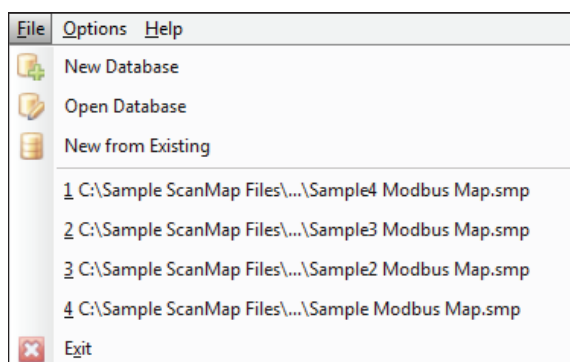
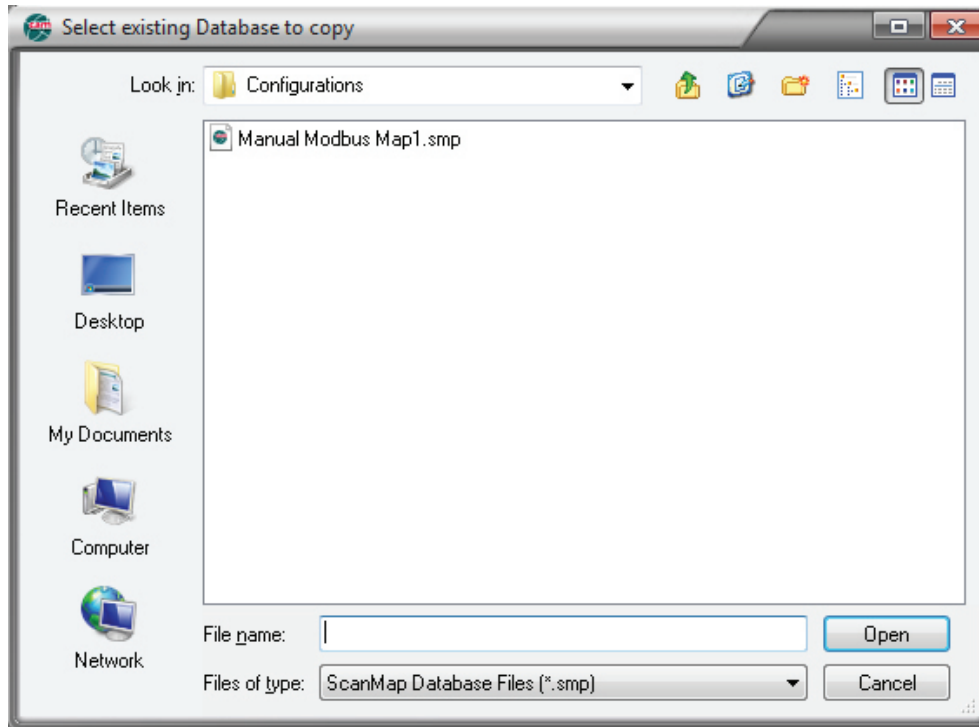

Figure 4.1—File menu
Figure 4.6—Select Existing Database to Copy dialog
The first step in creating a custom Modbus map is to build a custom database. From the *File* menu, ScanMap users can create a new database from scratch (**File>New Database**) or from an existing database (**File>New from Existing**), as shown in Figure 4.1. ScanMap is preloaded with three databases that can be used as-is or modified with user-selected registers and units:
- From the main screen, choose **File>New from Existing** (Figure 4.1, page 15). The *Select Existing Database to Copy* dialog will appear (Figure 4.6, page 18).
1. Choose **File>Open Database** (Figure 4.1, page 15).